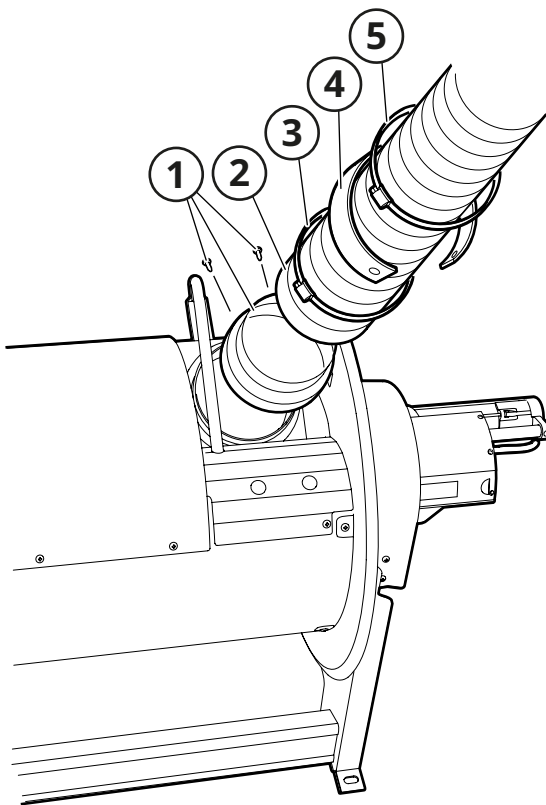

Fig. 10
6. Install the hose (2, Fig. 10) with any reducer (1) on the hose reel connection with hose clamps (3).